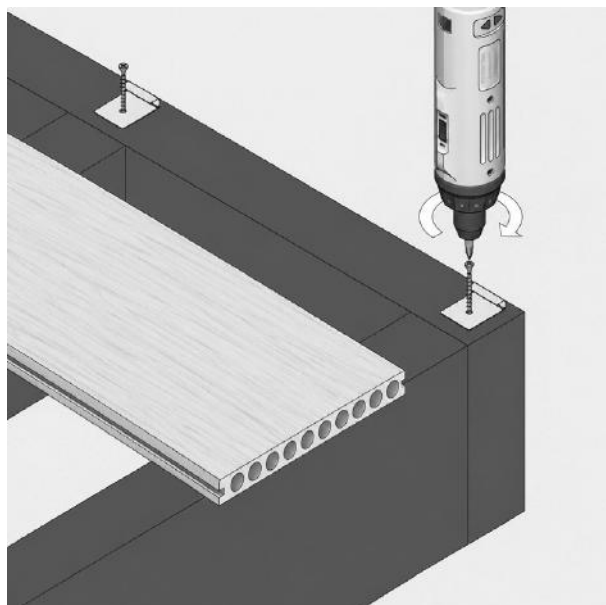
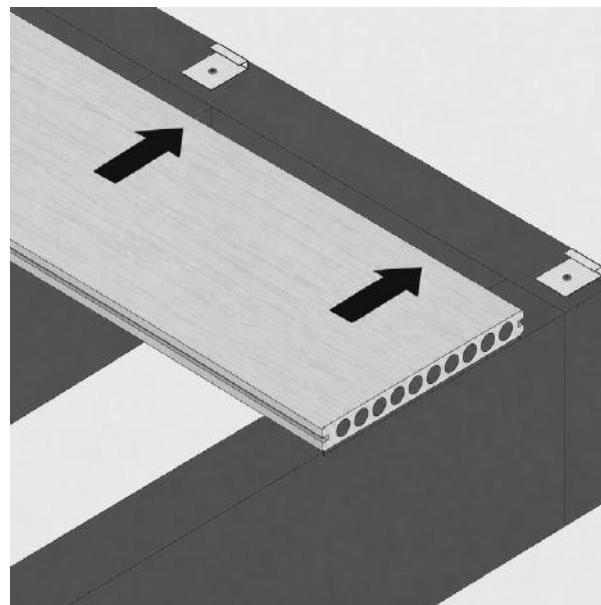

FIG. 2 – FIRST BOARD FIXED WITH PURAFIX™ HIDDEN STARTER FASTENERS
FIG. 3 – HIDDEN FASTENER SET INTO THE GROOVED BOARD EDGE
- 01 The first board must be fixed with PuraFix™ hidden starter fasteners that clip to the side groove of the board (fig. 2): align the starter fasteners along the first joist, every 300 mm along the joist length; securely screw each clip to the joist; simply clip the first decking board to the starter fasteners (fig. 3).
- 02 To fix adjacent boards, place PuraFix™ hidden fasteners (3 mm or 6 mm) into the grooved edge of the fixed board and insert the secure screw into the hidden fasteners (fig. 3): screw holes should be lined up with joist centres; ensure the countersunk section of the hidden secure clip is facing up; install 1 hidden clip on each joist; always use hidden clips at board ends; use 1 clip per board end at butt joints (never share a clip across 2 board ends).